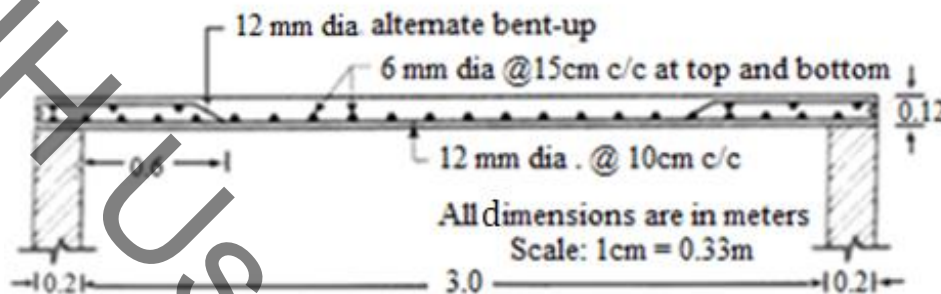

Figure. 2
- 4.a) For the building shown in figure 2. Estimate the quantity of brickwork in super structure.
b) Prepare bar bending schedule for the one way slab $3\text{m} \times 6\text{m}$ shown in fig.2. [8+7]